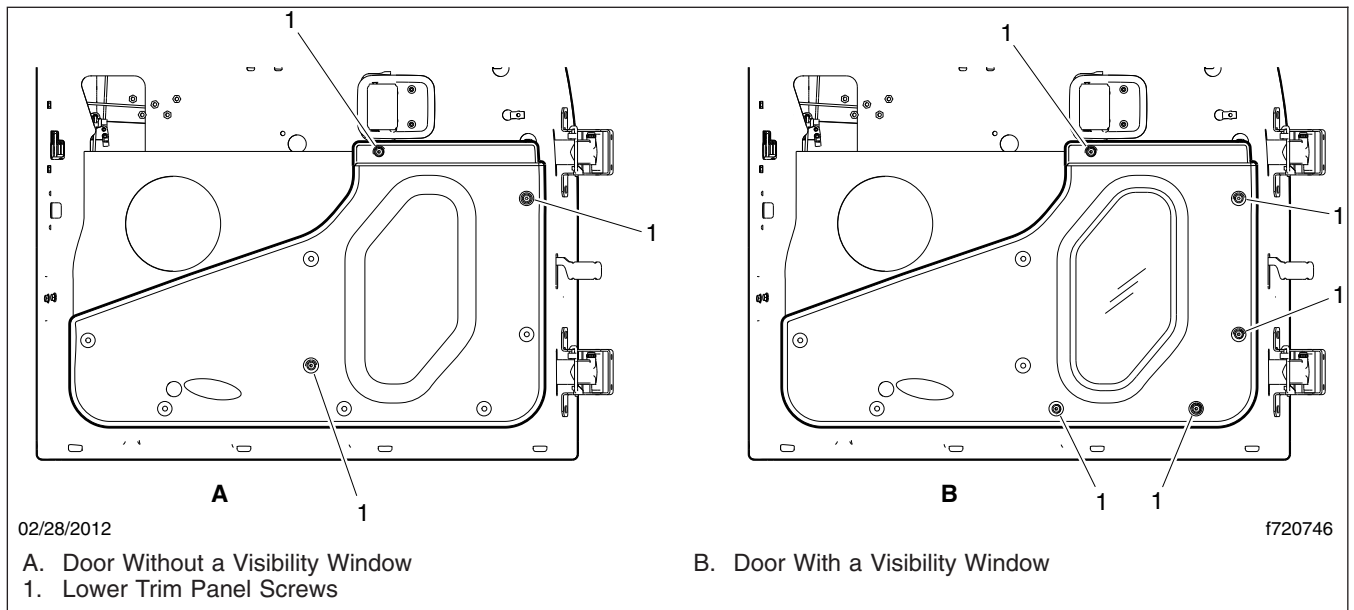

Fig. 3, Lower Trim Panel Screw Locations
9. Remove the lower trim panel. See Fig. 3.
3. Using short screws, install the lower trim panel. For fastener locations, see Fig. 3. The remaining holes are used for the map pocket panel installation.